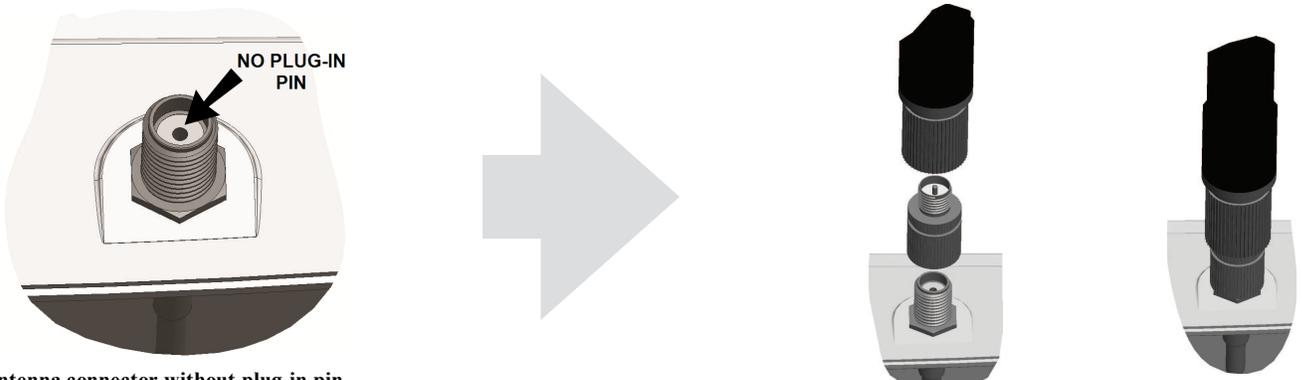

Figure 2: Antenna connector without plug-in pin
4. Connect the end of the extension antenna cable to the on-board antenna connector. Use the brass adaptor if required (see Figure 2).